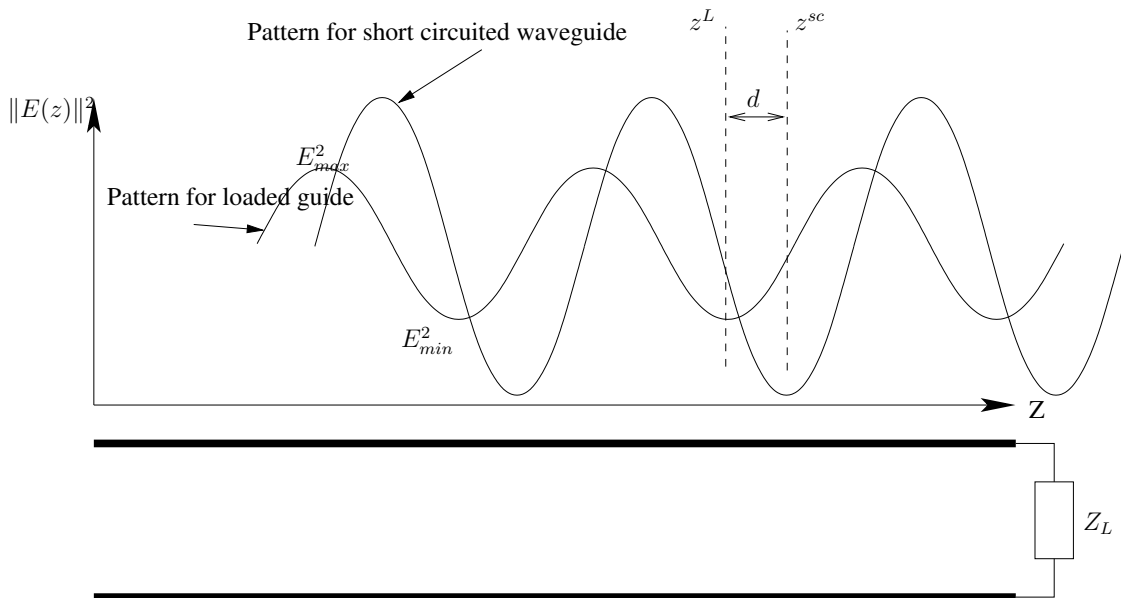

Figure 6: Measuring the distance d the minimum has moved towards the generator.
1. Move the slide towards the generator and measure the distance the minimum has moved towards the generator d , see Fig. 6.